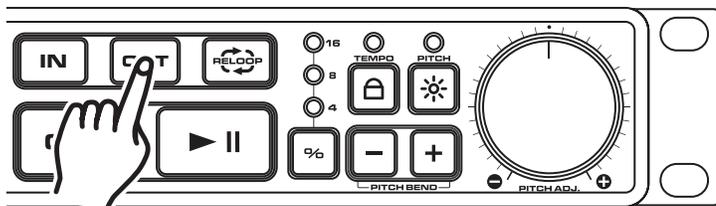

Figure 16
- 3) Press the *OUT BUTTON (8)* to set the ending point for your SEAMLESS LOOP (Figure 16). The *IN BUTTON* and *OUT BUTTON LEDs* will immediately begin to flash rapidly indicating the SEAMLESS LOOP mode has been activated.